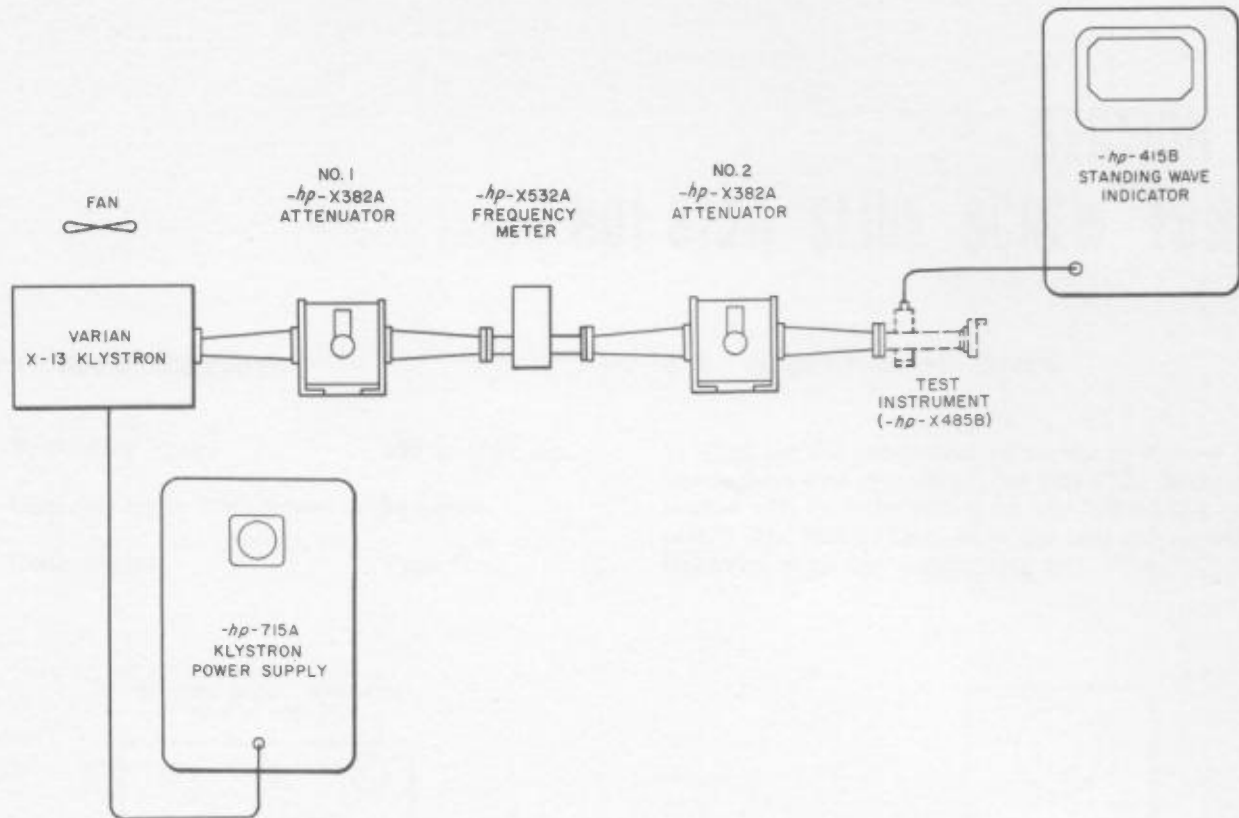

Figure 5-2 X485B Detector Mount Square Law Calibration
- 1) Connect the equipment as shown in Figure 5-2.